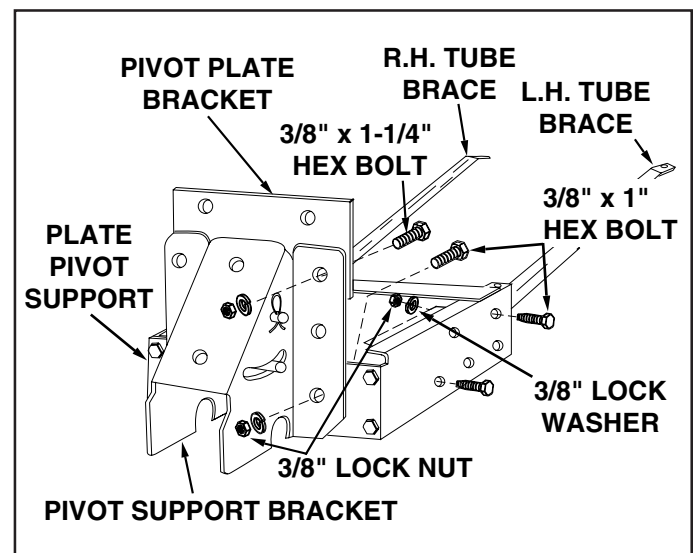

FIGURE 4
- Using the bottom hole on each side, attach the pivot support bracket to outside of pivot support plate using two 3/8" x 1" hex bolts, lock washers and lock nuts. See figure 4.
- Using the top holes on the pivot support plate, assemble the pivot plate bracket to the inside of the plate using two 3/8" x 1-1/4" hex bolts, lock washers and lock nuts. See figure 4.
- Attach the left and right hand tube braces to the inside of the left and right hand frame pivot supports using four 3/8" x 1" hex bolts, lock washers and lock nuts. Both tube braces should angle up and out. **Do not tighten at this time.** See figure 4.